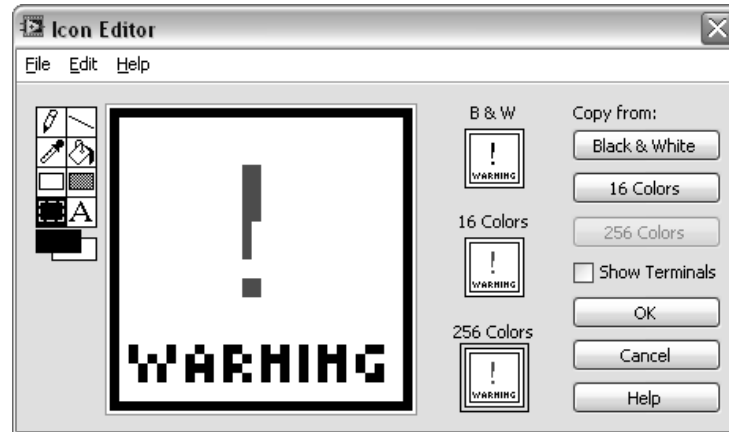

Figure 7-8. Sample Warning Icon
- Use the tools in the Icon Editor window to create an icon. Make the icon as simple or as complex as you want, however, it should be representative of the function of the VI. Figure 7-8 shows a simple example of an icon for this VI.